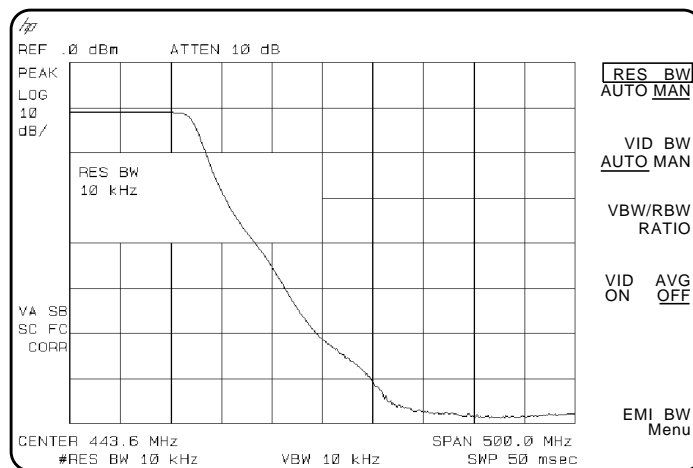

Figure 55 Decrease the Resolution Bandwidth to Improve Sensitivity
- 6 Decrease the resolution bandwidth to increase sensitivity, and narrow the video bandwidth to smooth the noise. In Figure 55, the resolution bandwidth has been decreased to 10 kHz.